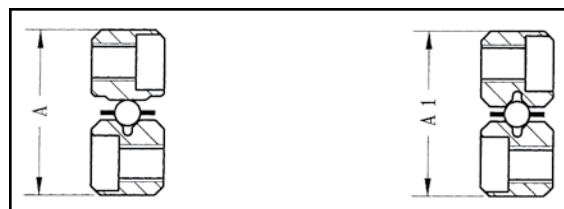

Fig. 6
- 12) Per guide in coppia, come la fig. 6, le quote A e A1 saranno contenute in  $\pm 0,01$  mm (a richiesta con supplemento prezzo).
- 11) For a mounting as indicated in Figure 6, the height A and A1 can be matched, at extra cost, to a maximum variation of  $\pm 0.01$  mm;